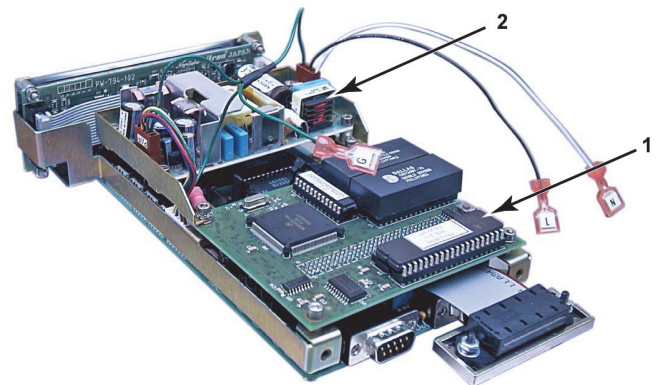

Figure 3. Bios Prom and Power Supply Location
- ⑪ Install the new BIOS PROM (see Figure 3)
- ⑫ Place the chassis into the enclosure base.
- ⑬ Assemble enclosure cover to base by first reconnecting the fan cable, then close cover and install cover screws.